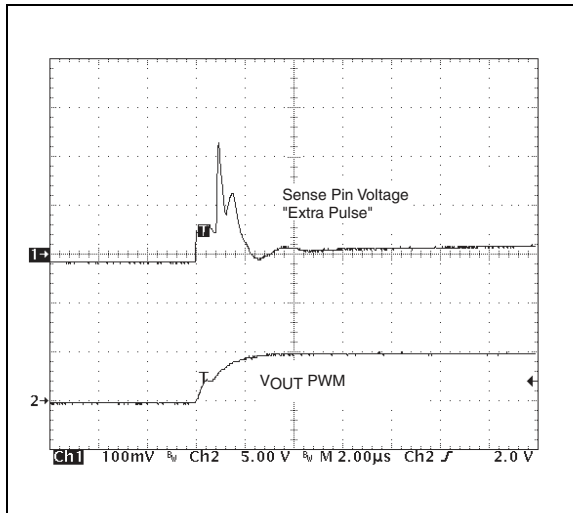

**FIGURE 7-9:** Four Current Pulses Per Revolution Fan.
**Example:** The full speed fan RPM rating is 8200 RPM. From this, the time for one fan revolution is calculated to be 7.3 msec, using the previously discussed equation. Using a current probe, the fan current can be monitored as the fan is operating at full speed. Figure 7-9 shows the fan current pulses for this example. The 7.44 msec window, marked by the cursors, is very near the 7.3 msec calculated above and is within the tolerance of the fan ratings. Four current pulses occur within this 7.44 msec time frame. Given this information, FPPR (bits 2-1<01>) in the Configuration Register should be set to '10' to indicate 4 current pulses per revolution.
This problem occurs mainly with fans that have a current waveshape like the one shown in Figure 7-9. For configurations where an NPN transistor is being used as the external drive device, the typical  $R_{SENSE}$  and  $C_{SENSE}$  scheme can continue to be used to sense the fan current pulses. In order to eliminate the extra current pulse, a slow down capacitor can be placed from the base of the transistor to ground. A  $0.1\ \mu\text{F}$  capacitor is appropriate in most cases. This arrangement is shown in Figure 7-11. This capacitor will help to slow down the turn-on edge of the transistor and reduce the amplitude of the extra current pulse.